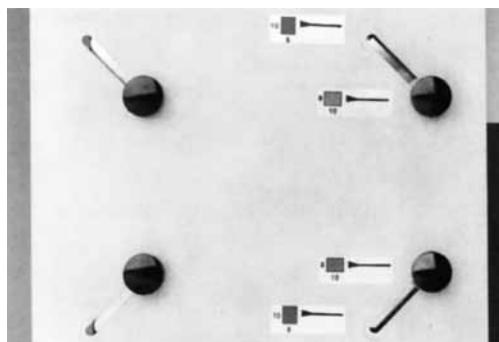

Figure 35
1. **Cassette Carrier Assembly.** When the cassette carrier assembly is set in the 8" x 10" horizontal format, the main plate will appear as shown in Figure 35.